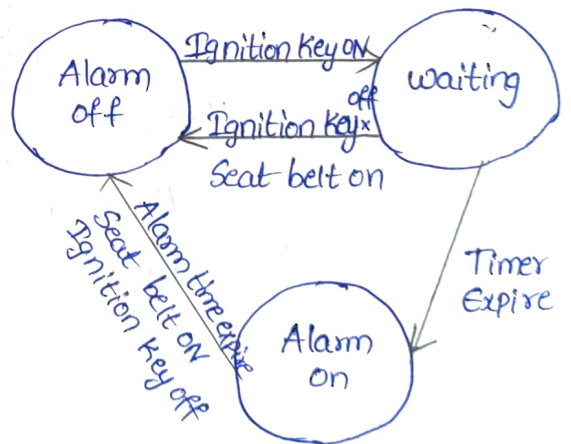

Fig 1: FSM model for automatic seat belt warning system.
- * In fig 1 the vehicle ignition is turned on and the seat belt is not fastened within 10sec of ignition ON, the system generates an alarm signal of 5sec.